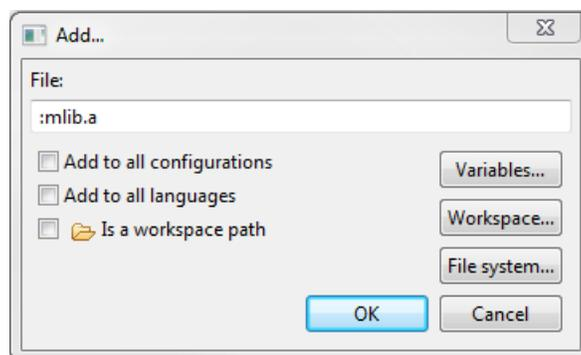

Figure 1-23. Library file inclusion
11. Type the following into the File text box (see Figure 1-23): `:mlib.a`